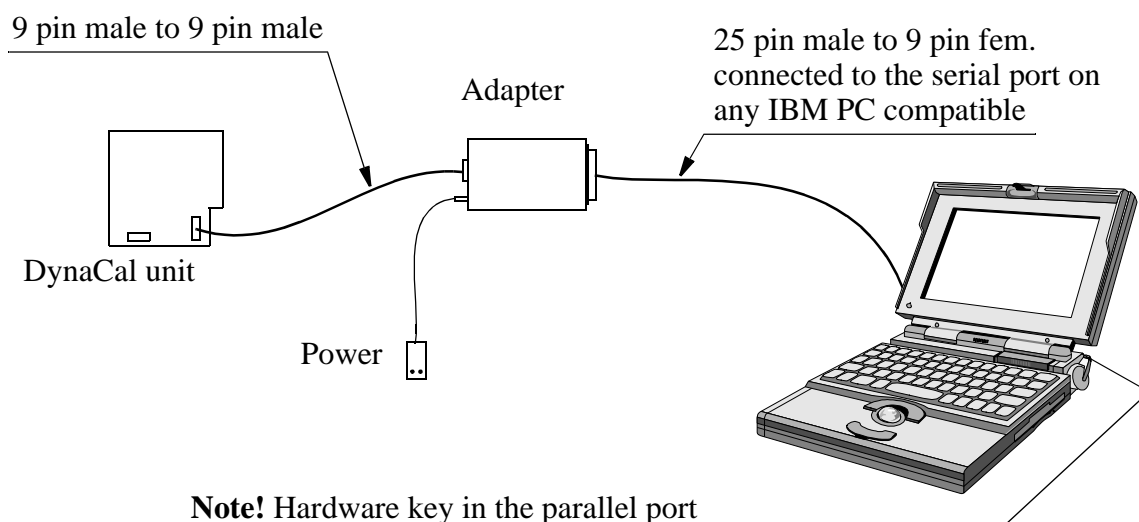

Figure 19 The DynaCal System.
The calibration is performed with the DynaCal System (see Figure 19).
3. Hook up the system together with a PC according to Figure 19.